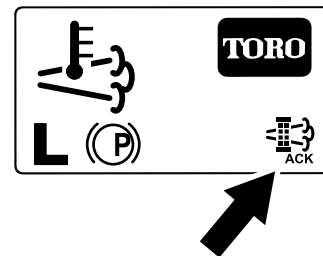

Figure 68
8. The InfoCenter displays the home screen and the regeneration acknowledge icon (Figure 68) appears in the lower right corner of the screen as the regeneration processes.